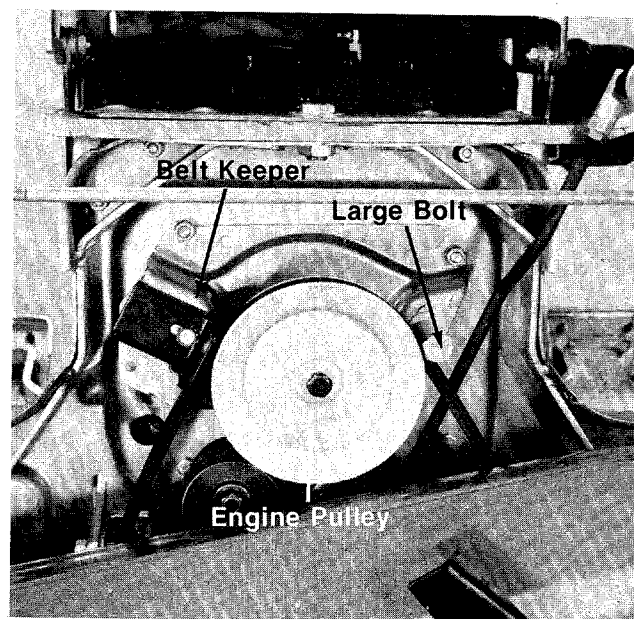

FIGURE 34.
2. Remove the belt keeper and large bolt from the engine pulley. (See figure 34.)
3. Remove the belt keeper and large bolt from the engine pulley. (See figure 34.)